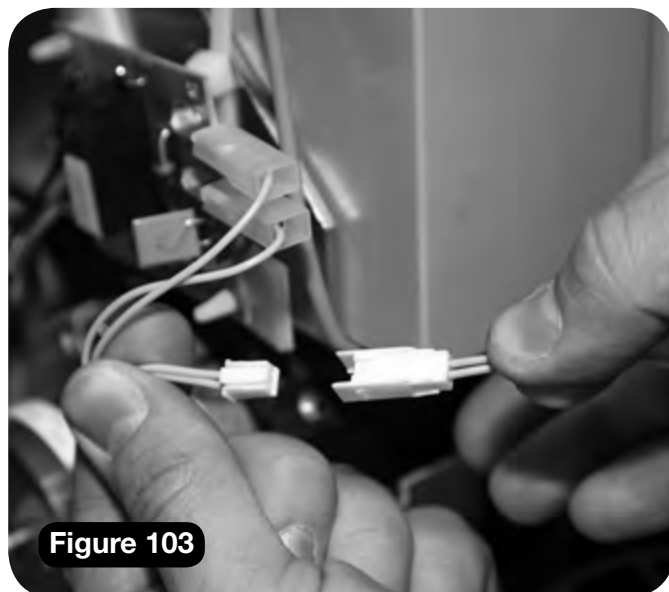

Figure 103
- g** Connect the powered footplate looms (twin yellow) (**Figure 103**).